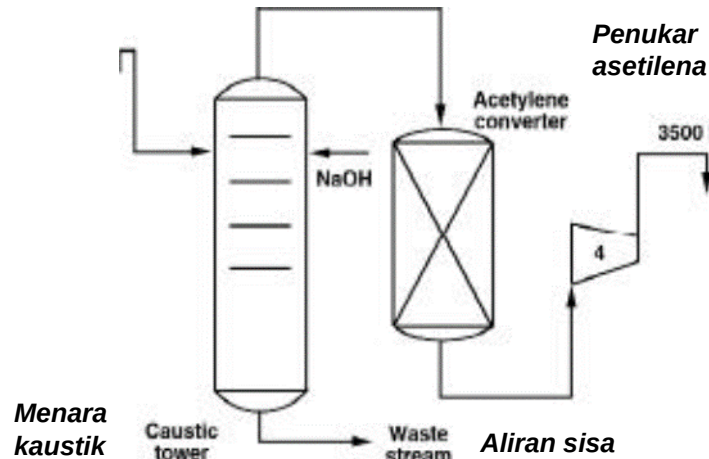

Figure2: Treatment in between compressor process
- (ii). Explain the reason why it is a common practice for a gas stream to be treated between the third and fourth compressor as shown in **Figure 2**.